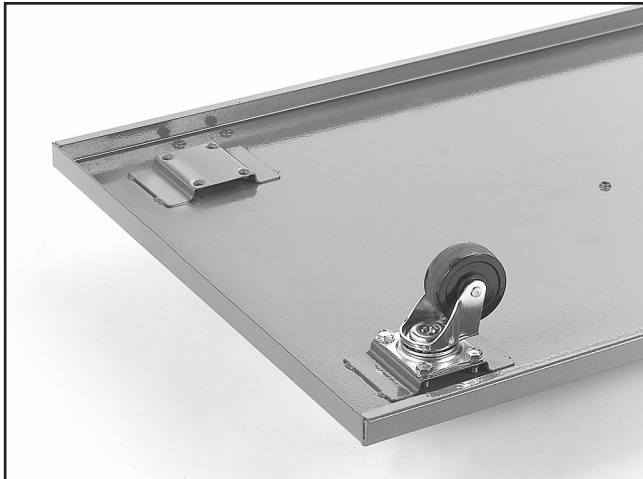

Figure 7. Caster installed on the base mounting bracket.
2. Secure the casters into the mounting brackets under the base with the flange bolts (**Figure 7**).